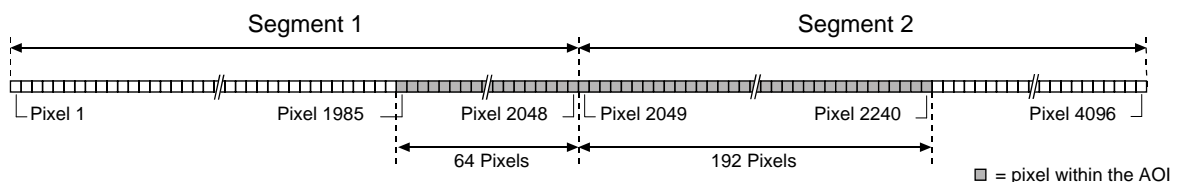

Fig. 58: AOI Falling Across Segments
- Suppose that for a 4k camera, the AOI starting pixel is set for 1985 and the length is set for 256. With these settings, the AOI falls across the two sensor segments as shown in Figure 58. Segment 1 includes 64 of the pixels in the AOI and segment 2 includes 192 of the pixels in the AOI. The Max Seg AOI Pixels in this situation would be 192 (because segment 2 contains the largest part of the AOI and the number of AOI pixels in segment 2 is 192).